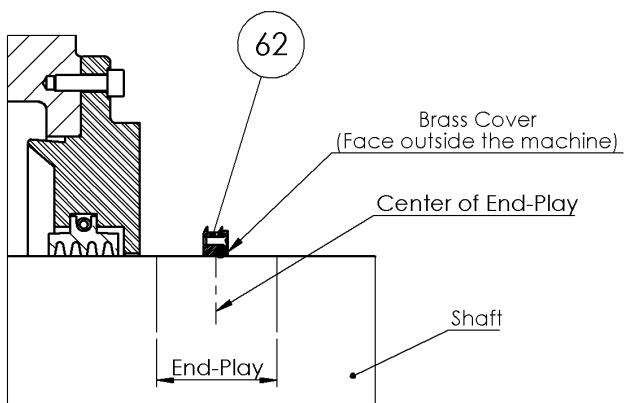
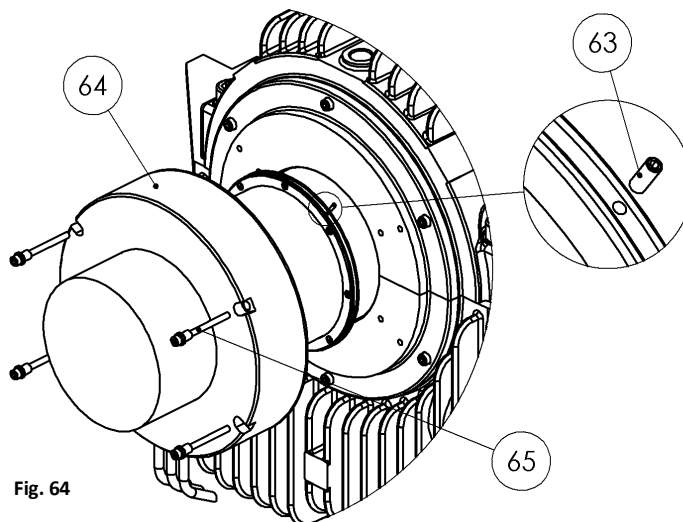

Fig. 62
Fig. 64
- Check the maximum longitudinal displacement (end-play) of the shaft. Then place the centrifugal ring at the center of the displacement as showed on figure 62.
- Screw the two lock bolts (63) placed around the centrifugal ring. Confirm if the centrifugal ring is totally fixed at the shaft.
- Finally, place the IP-56 baffle (64) on the shaft and attach with the screws (65) (Fig. 64).